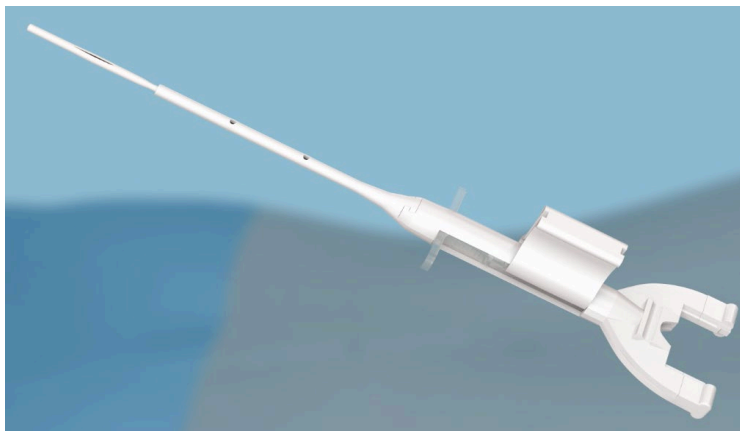

Figure 5
3. Once loaded, straighten the SandShark Anchor so that it can pass through the dermal layers and through the first incision site. (Figure 5)